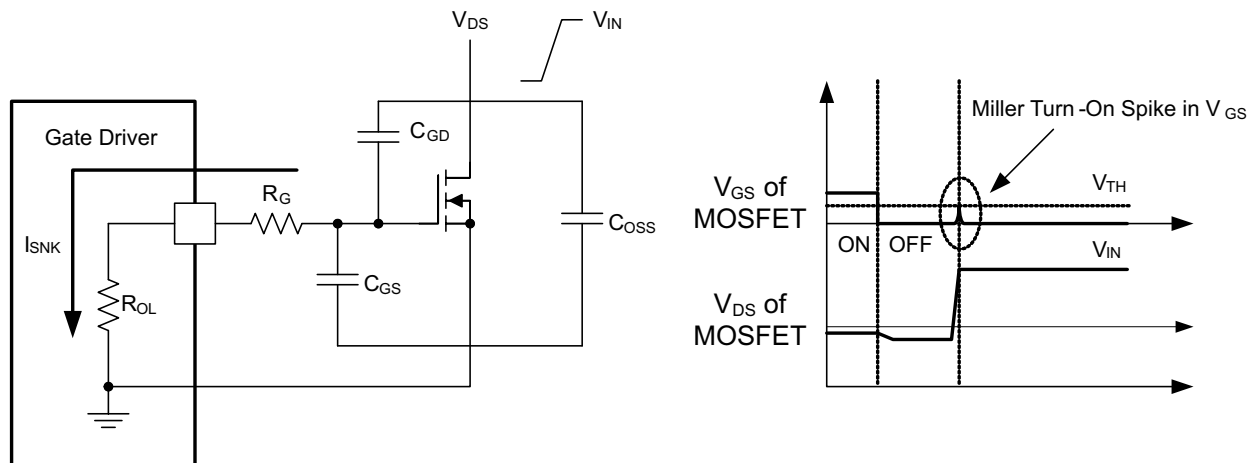

Figure 7-3. Low Pulldown Impedance in the UCC27532-Q1 Device (Output Stage Mitigates Miller Turnon Effect)
An example of a situation where Miller turnon is a concern is synchronous rectification (SR). In SR application, the dV/dt occurs on MOSFET drain when the MOSFET is already held in the off state by the gate driver. The current charging the C_{GD} Miller capacitance during this high dV/dt is shunted by the pulldown stage of the driver. If the pulldown impedance is not low enough then a voltage spike can result in the V_{GS} of the MOSFET, which can result in spurious turnon. This phenomenon is illustrated in Figure 7-3.